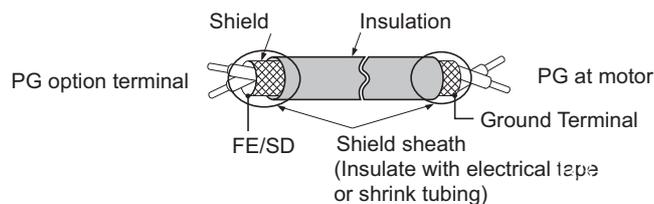
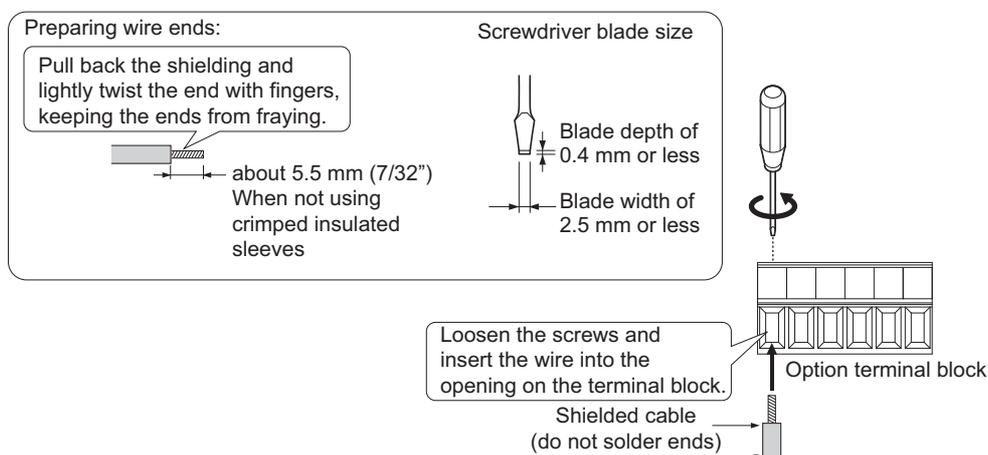

Figure 8.6 Preparing Ends of Shielded Cable
Figure 8.7 Preparing and Connecting Cable Wiring
- There are two screw holes on the drive for use as ground terminals (I). When connecting three options, two ground wires will need to share the same drive ground terminal.
- Prepare and connect the wire ends as shown in Figure 8.6 and Figure 8.7. Refer to Wire Gauges and Tightening Torques on page 416 to confirm that the proper tightening torque is applied to each terminal. Take particular precaution to ensure that each wire is properly connected and wire insulation is not accidentally pinched into electrical terminals.